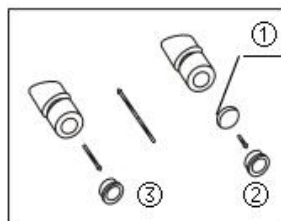

Fig. 5
- 1) Turn and remove the mounting ring ② from the eyepiece.(Fig.5)
- 2) Clean the eyepiece micrometer①, and mount it to the mounting ring with the inscription side downward.
- 3) Gently twist the mounting ring with the eyepiece micrometer into the eyepiece till tightening② securely.